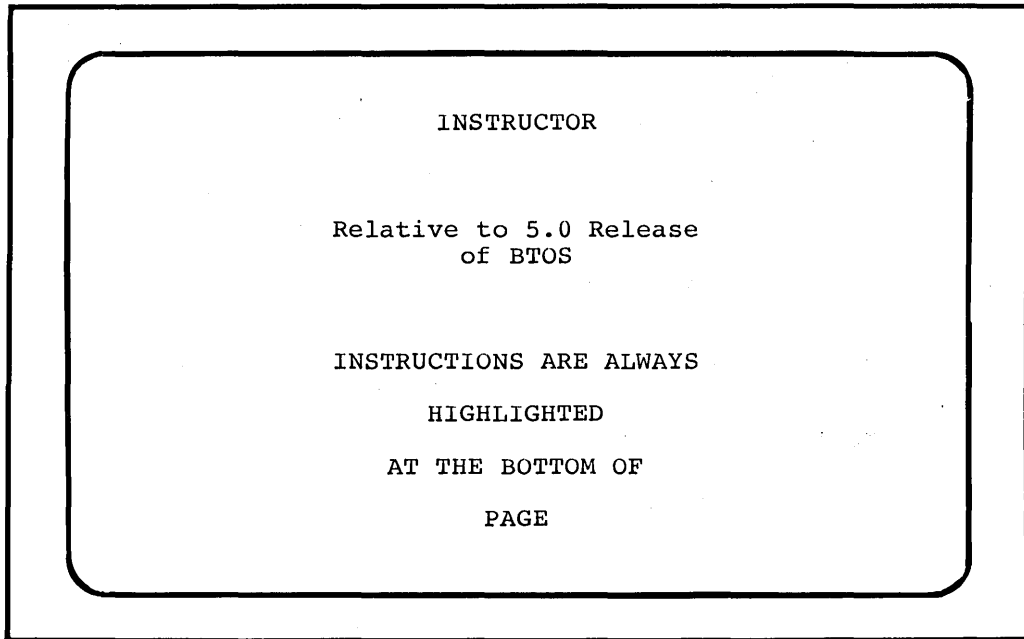

Figure 1-1. Instructor CAI Sample Screen
6. The first frame of the Instructor program (Frame 10) will appear on the workstation screen, as illustrated in Fig 1-1. If Frame 10 does not appear on your screen, repeat steps 4 and 5.